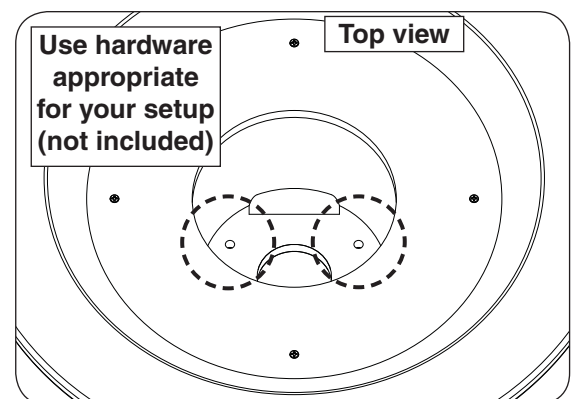

Fig. 23-4 Mount unit to floor (if applicable)
1. Using appropriate mounting hardware for the floor material/construction, secure the unit into the floor. The interior of the unit has two  $\frac{1}{2}$ " holes that will allow for the unit to be fastened to the floor. See Fig. 23-4.